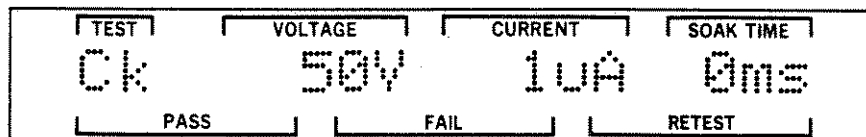

Figure 7-61. Check Test Conditions Screen
STEP 14. Press the UP pushbutton once to display the Check Test Conditions screen. Refer to Figure 7-61.